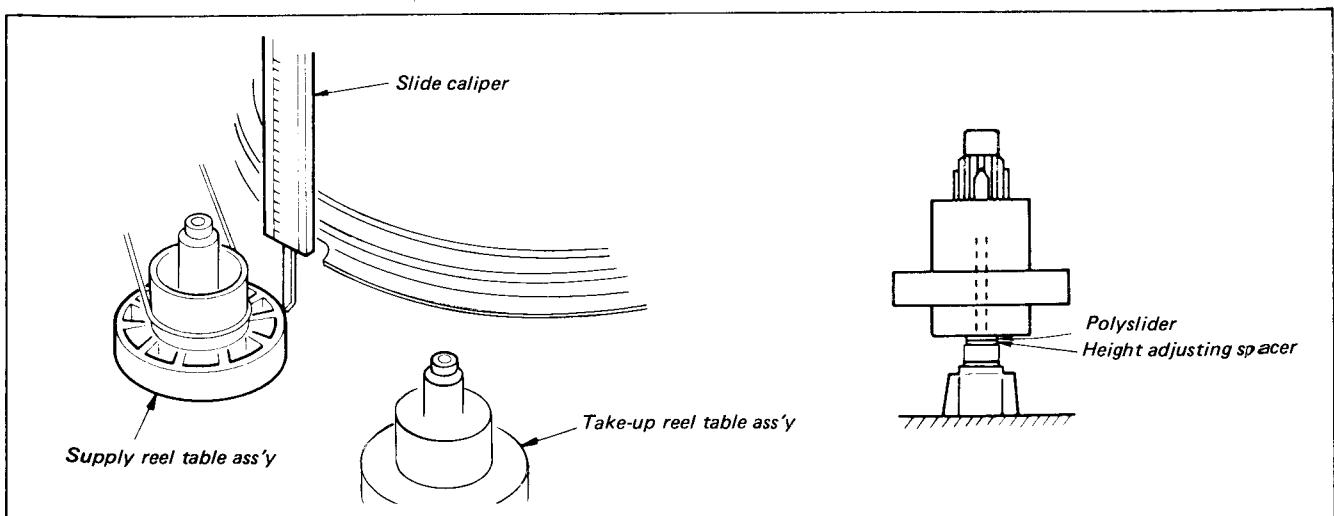

Fig. 3-9. Adjustment of Reel Table Height
- Place a new reel table, measure its height, and adjust height by adding or removing the adjusting spacer so that a difference in the height of the old reel table and the new reel table is within 0.1 mm. (See Fig. 3-9.)